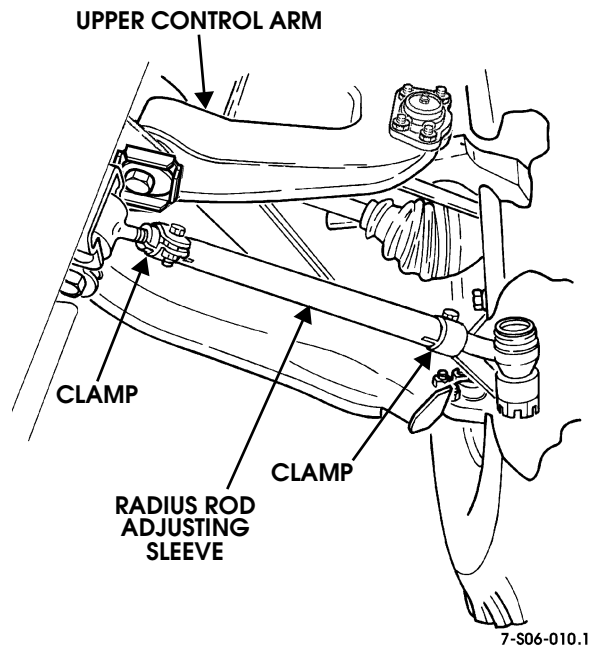

Figure 6-45: Rear Wheel Toe Adjustment Points
2. Loosen clamps on both radius rods (Figure 6-45).